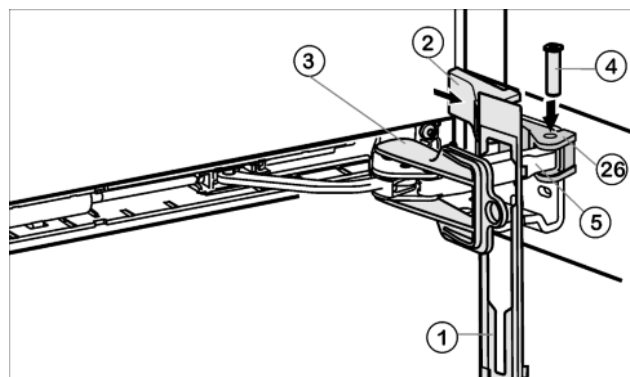

Fig. 12
- ▶ Attach the faceplate Fig. 12 (1) to the soft stop bracket so that the catches face forwards and the front faces the appliance.
- ▶ Draw the soft stop bracket Fig. 12 (5) towards the bearing part Fig. 12 (26) and re-insert the pin Fig. 12 (4) from above so that the square sits in the recess.
- ▶ Attach and engage the cover Fig. 12 (2).
- ▶ Twist the safety lock Fig. 12 (3) for removal.
- ▶ Snap the faceplate Fig. 12 (1) onto the door.